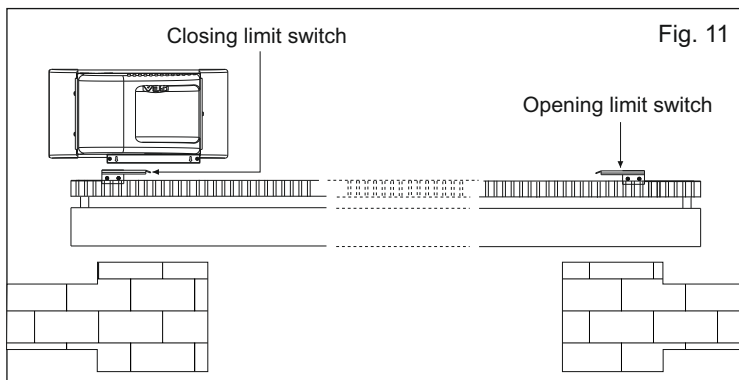

Fig. 11
**6.1.** To set up and adjust the limit switches in opening, follow the instructions written here (Fig. 11):
**6.2.** To set up and adjust the limit switches in closing, follow the instructions written here (Fig. 11):